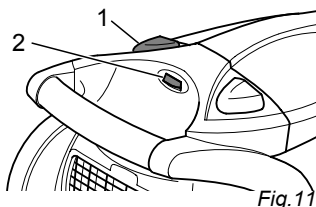

Fig. 11
3. Switch on the cylinder vacuum cleaner using the on/off switch (Fig. 11/1).
4. Turn on the suction using the suction controller (Fig. 11/2).